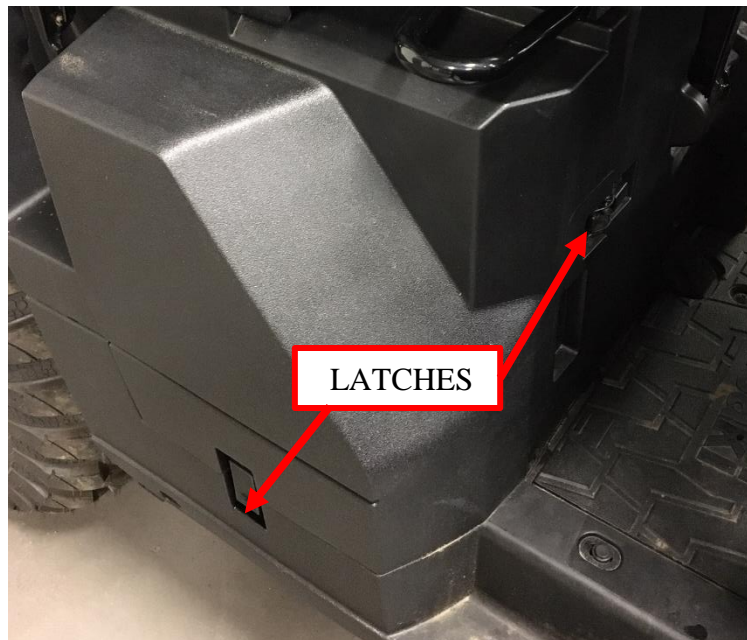

Figure 15: Remove the battery compartment cover.
16. Remove the battery compartment cover by unlatching the front and side latches. See Figure 15.